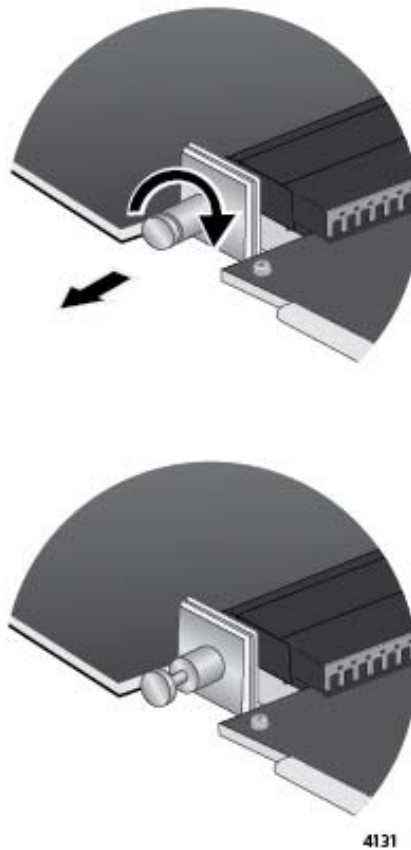

Figure 164. Retracting the Retaining Pin on the AT-SBx81XLEM Line Card
4. With your thumb and forefinger, pull out the retaining pin on the side of the line card and turn it clockwise one quarter turn until it remains in the retracted position. Refer to Figure 164.